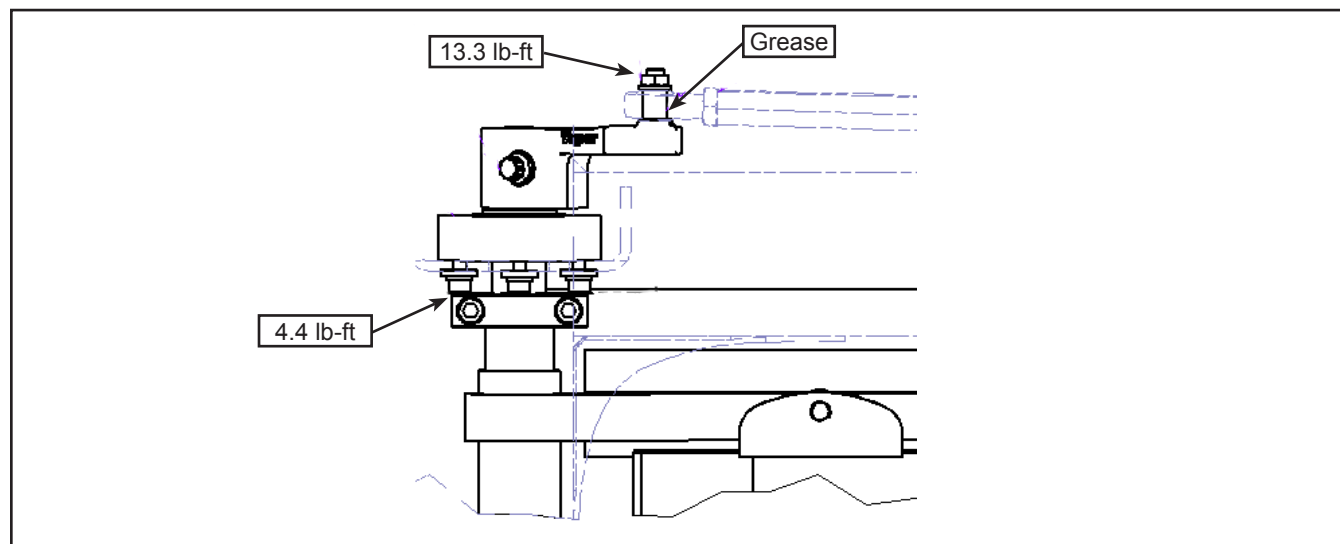

Figure 18 - Torque Door Shaft
- 1.28. Install the door shaft and apply a torque of 4.4 lb-ft to the three bolts. Use thread locker 9985283 or equivalent and anti-tamper seal. See Figure 18.